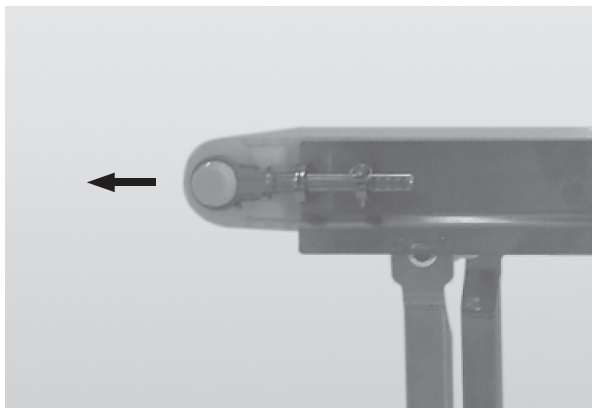

Figure 46
8. Extend the tension end to remove excess slack in the belt (Figure 46).